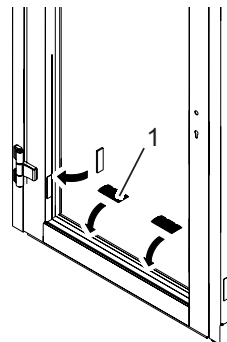

Fig. 31: Inserting the glazing blocks
3. Tighten screws (Fig. 31/1).
1. Insert two glazing blocks (Fig. 31/1) on each side.